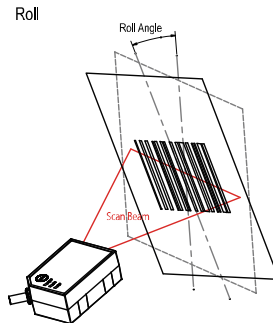

Figure 2: Skew, Pitch and Roll Angle Illustration
- b. When placing the barcode label, one must be careful not to over tilt, skew and/or pitch the barcode (Refer to figure 2)